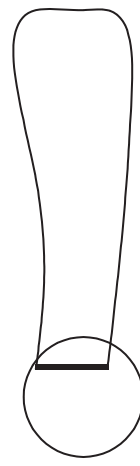

Fig. 10
Step 2. Draw a line across the bottom of the blade spline, **Fig. 10**.